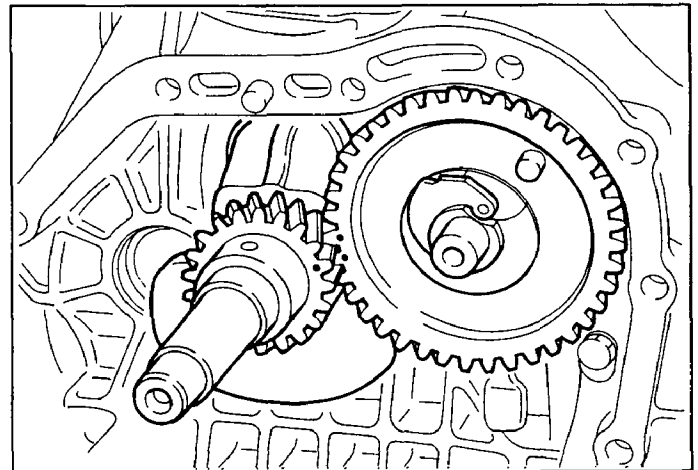

FIG. 48
- (2) Install the camshaft into the crankcase matching the timing marks on the crank gear and cam gear. (See Fig. 48.)